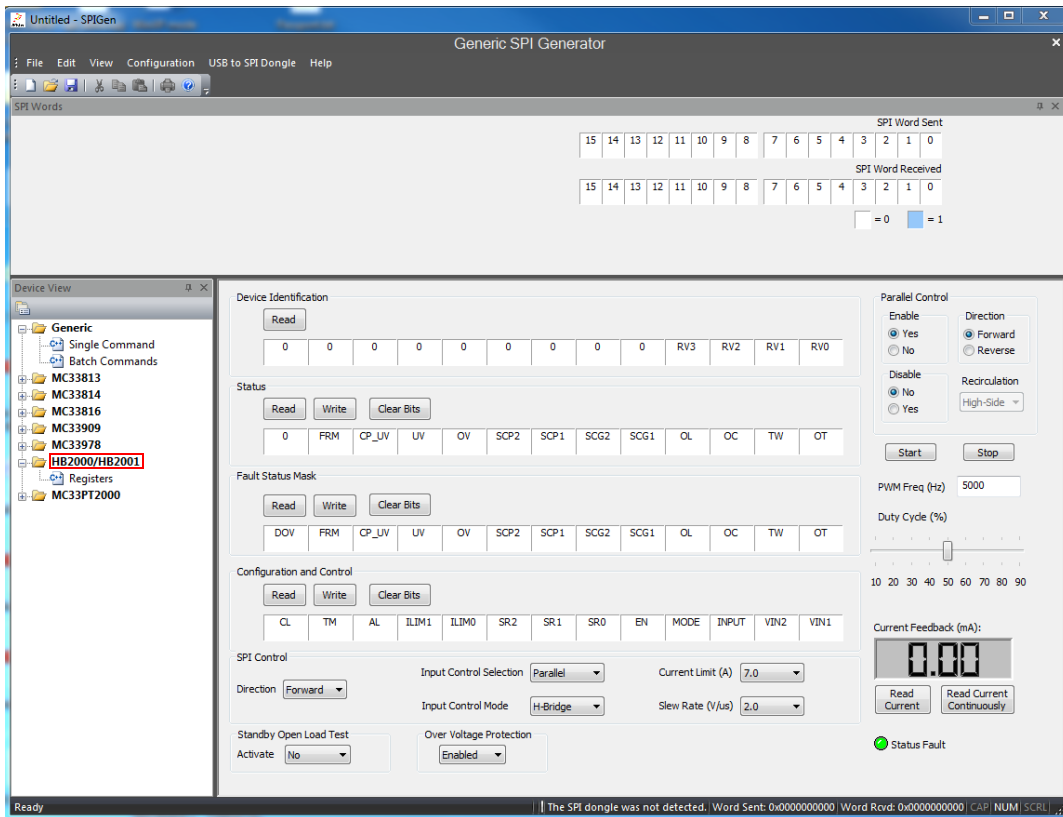

Figure 17. MC33HB2001 SPI window
5. To access the HB2000/HB2001 tab in the SPIGen window, expand the HB2000/HB2001 folder in the Device View. Then click on the **Registers** icon (see Figure 17).